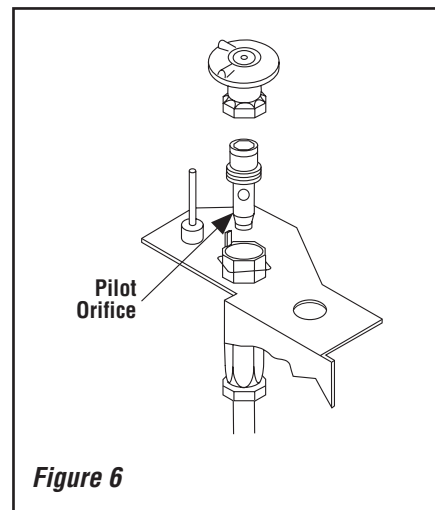

Figure 6
Step 12. See **Figure 6** and replace the pilot orifice as follows: Remove the pilot hood assembly to access the hexed pilot orifice. Remove and replace the orifice with the one provided with the kit. **Exercise extreme care to prevent damage to or breakage of the ignitor assembly.**